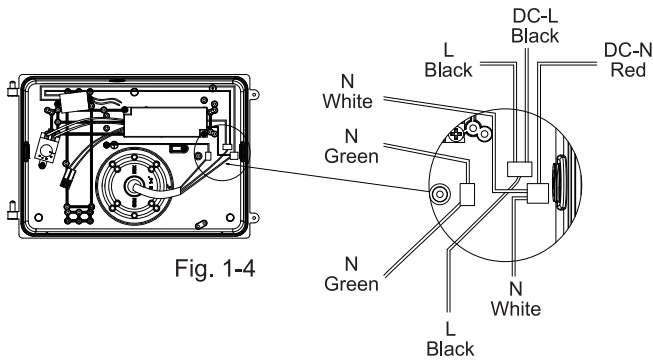

Fig. 1-4
3. Make wiring connections per "Electrical Connections" section and make sure the good wire protection. (Fig. 1-4)